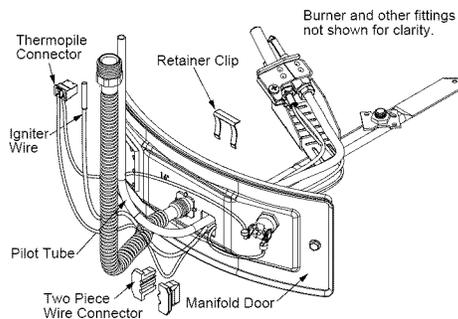

FIGURE 35.
2. Remove the retainer clip from the back of the two piece wire connector (using a flat blade screw driver), then remove the two piece wire connector from the manifold door (Figure 35).
3. Remove the burner by removing the two (2) screws located beneath it. Keep the screws for future use.
4. Remove the screw that secures the pilot shield and pilot assembly to the pilot bracket (Figure 35). Keep the screw for future use.
6. Pull the pilot tube from the pilot assembly (Figure 35).
8. Push the new pilot assembly connectors through the hole in the manifold door where the two piece wire connector will be seated (See Figure 35). Reconnect the pilot tube and tighten the nut securing it to the pilot assembly. **IMPORTANT:** Keep the pilot orifice in the pilot when making the connection. Do not operate the water heater without the pilot orifice installed.